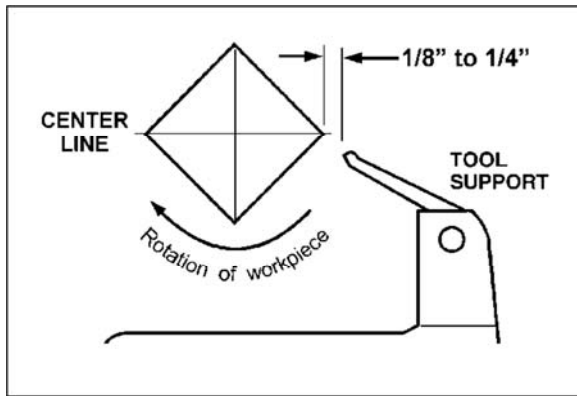

Figure 21
10. Move tool support into position. It should be parallel to the workpiece, just below the centerline and approximately 1/8" to 1/4" from the corners of the workpiece to be turned, as in Figure 21. Tighten support base to Lathe bed.